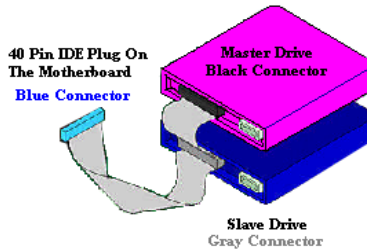

Figure 2-12. How to connect an ATA/66 Cable to the Motherboard
- Attach the **BLACK** connector to the mating plug on the **Master** hard drive. Attach the **GREY** connector to the mating plug on the **Slave** drive (secondary hard drive, CD ROM, or tape drive). Please refer figure 2-12.